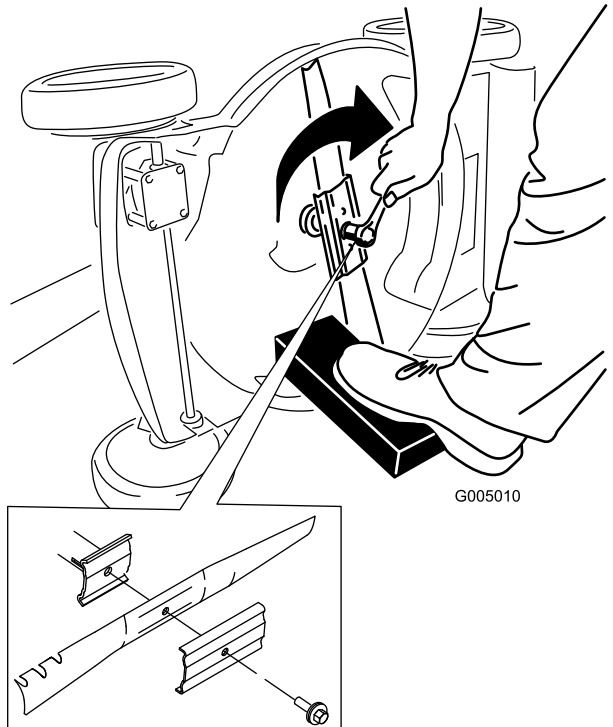

Figure 31
5. Install the new blade and all mounting hardware (Figure 31).